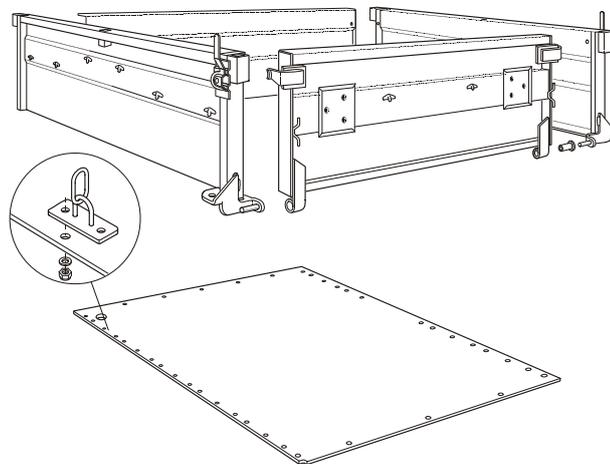

Figure 7 Cargo Tub Components
24. Cargo Tub. The trailer's cargo tub (Figure 7) is made of a 2.5 mm thick aluminium sheet floor and 1.2 mm pressed zinc annealed steel front and side panels. Six cargo lashing points are located on either side of the tray floor. The trailer is fitted with a drop-down, 1.2 mm pressed zinc annealed steel tailgate to facilitate loading. The tailgate can also be removed if required.